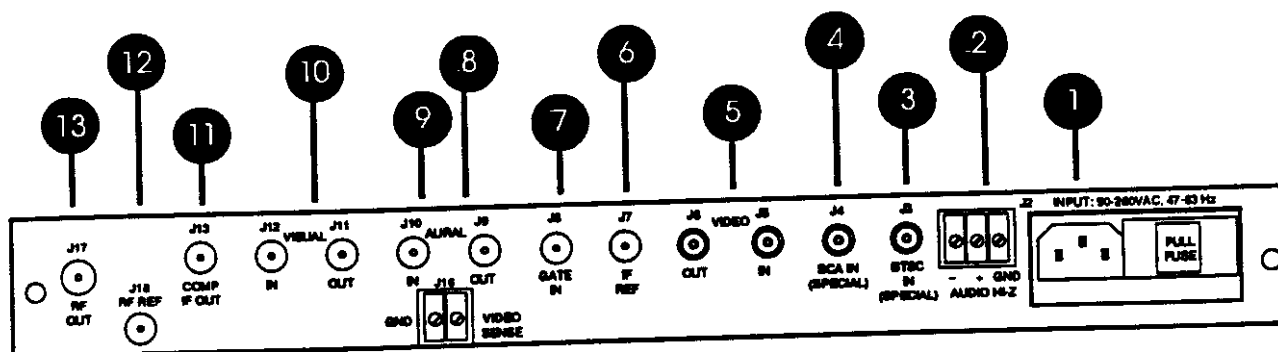

Figure 2-3
The ATM-1600 Broadcast Television Modulator chassis is designed for installation in standard (EIA) 19 inch racks, and occupies one (1) vertical mounting space (1.75 inches high). User adjustments, monitor points and bar graph modulation meters are located on the chassis front panel (refer to Figure 2-2). The input and output connectors are located at the rear along with an AC power input block and fuse holder (refer to Figure 2-3).
The ATM-1600 rear panel, its connectors, their uses, and loops required to implement special options are shown in detail in Figure 2-3.